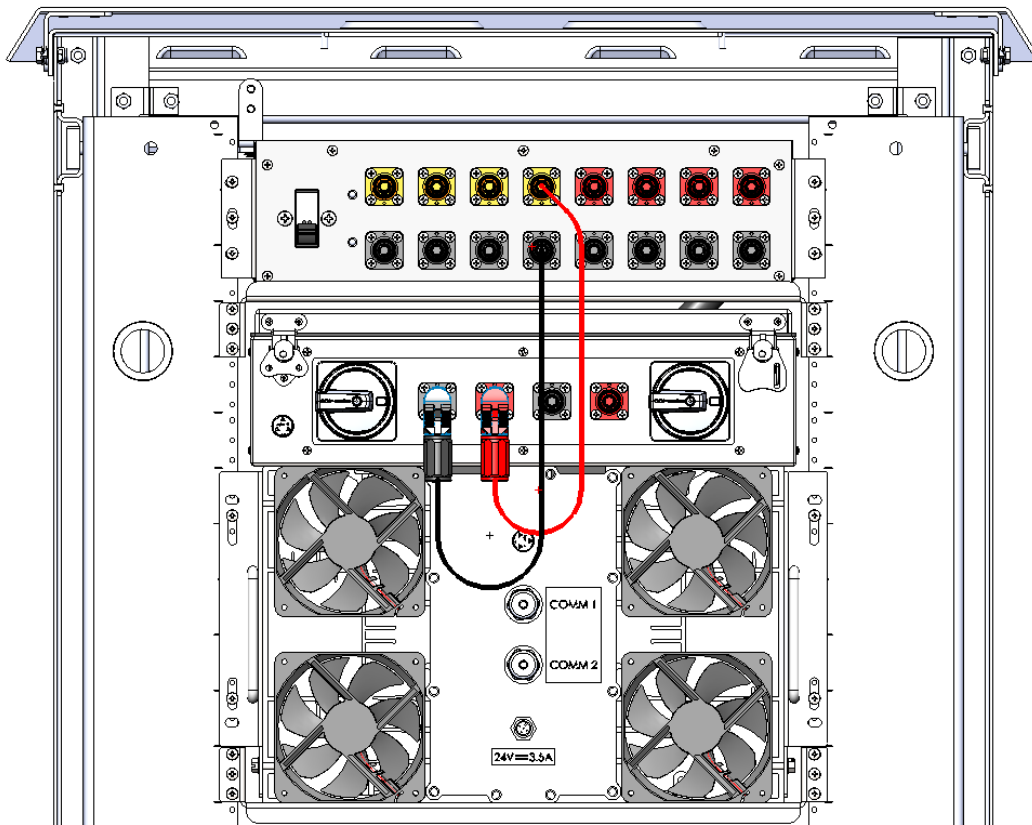

FIGURE 22: SURLOK CABLING ROUTED TO PRIMARY (INPUT) FEED #1
- (2) 1.5-foot SurLok Cables for SPOT #1 shown in Figure 22.